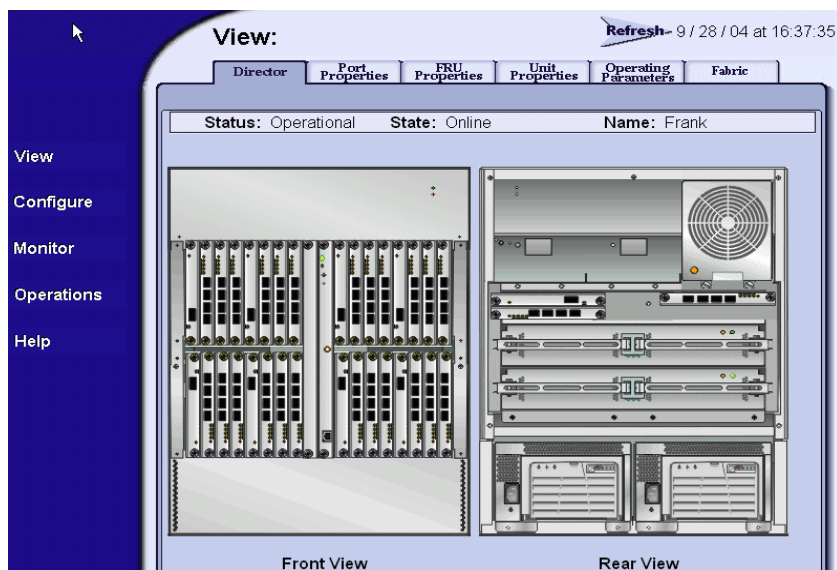

Figure 2-64 SANpilot Interface, View Panel (Director Page)
5. Click OK. The SANpilot interface opens with the *View* panel open and the *Director* page displayed (Figure 2-64).